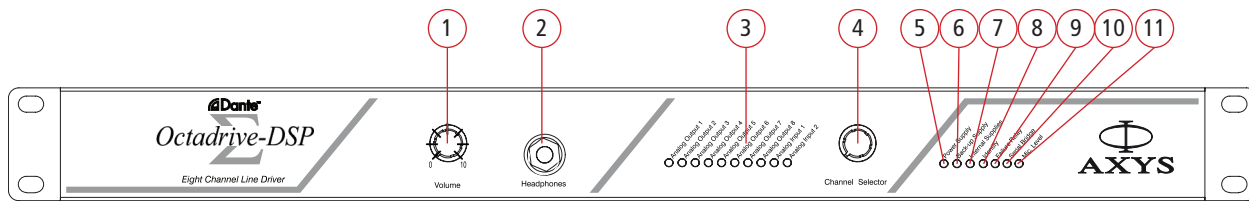

fig.2: Front Panel
*Numbers in square brackets refer to the figs. 2,3 & 4 on page 8.